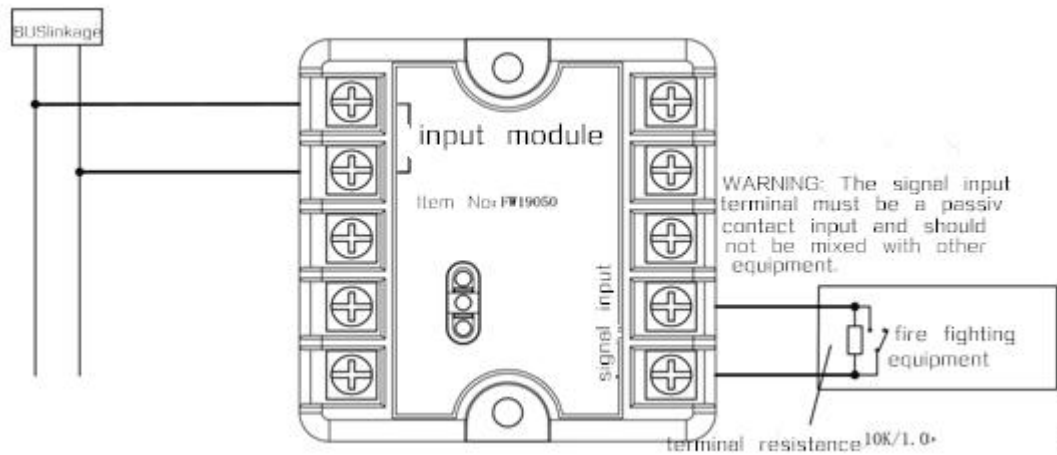

Figure 4: wiring diagram
2. wiring method shows in Figure 4